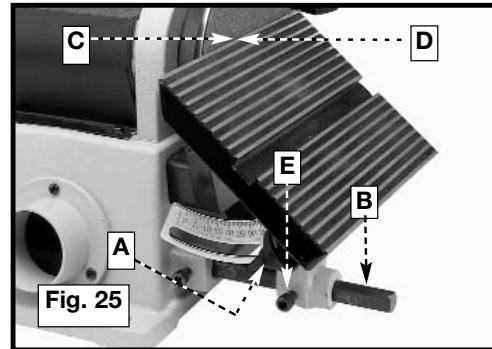

Fig. 25
You can tilt the table up to 45 degrees to the right by loosening the table lock knob (A) Fig. 25.
**⚠ WARNING:** After tilting, the table must be repositioned on the support rod (B) Fig. 25 to provide a maximum of 1/16 in. distance between the sanding disc (C) and the edge (D) of the table to avoid trapping the work or fingers between the disc and the table. To reposition the table assembly, loosen the screw (E), move the table assembly on the rod (B) and tighten the screw.